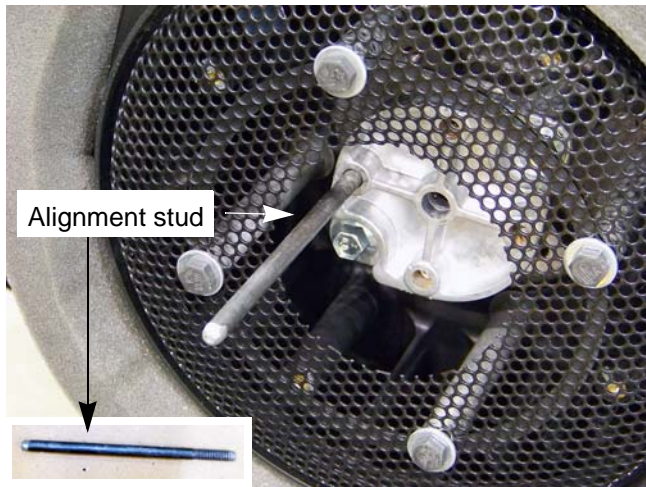

Figure 2.27
1. Install an alignment stud into one of the drive shaft coupler holes on the engine. See Figure 2.27.
NOTE: To make an alignment stud: See Figure 2.27.